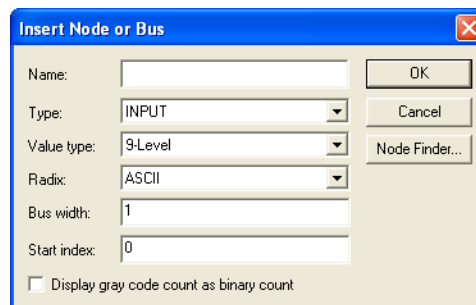
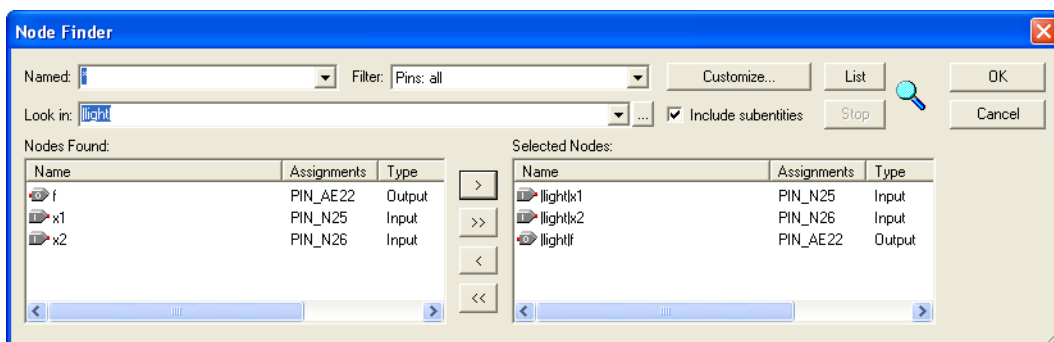
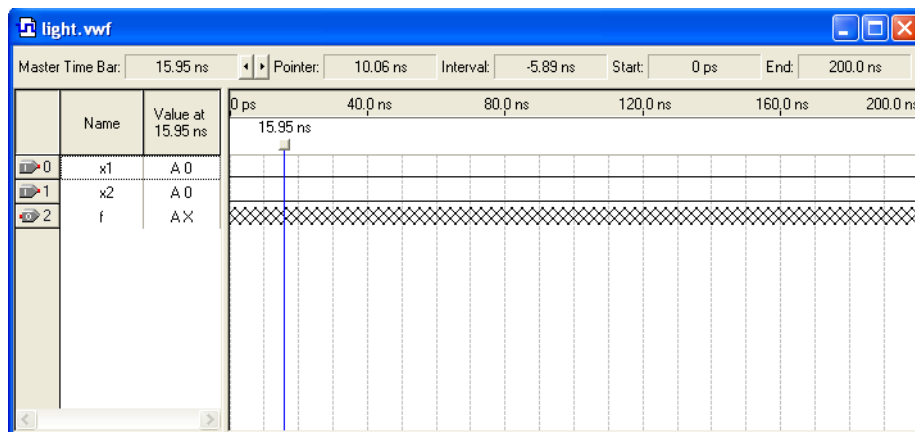

Figure 33. The Insert Node or Bus dialogue.
Figure 34. Selecting nodes to insert into the Waveform Editor.
Figure 35. The nodes needed for simulation.
- Next, we want to include the input and output nodes of the circuit to be simulated. Click **Edit > Insert > Insert Node or Bus** to open the window in Figure 33. It is possible to type the name of a signal (pin) into the Name box, but it is easier to click on the button labeled **Node Finder** to open the window in Figure 34. The Node Finder utility has a filter used to indicate what type of nodes are to be found. Since we are interested in input and output pins, set the filter to **Pins: all**. Click the **List** button to find the input and output nodes as indicated on the left side of the figure.
Click on the  $x1$  signal in the Nodes Found box in Figure 34, and then click the  $>$  sign to add it to the Selected Nodes box on the right side of the figure. Do the same for  $x2$  and  $f$ . Click OK to close the Node Finder window, and then click OK in the window of Figure 33. This leaves a fully displayed Waveform Editor window, as shown in Figure 35. If you did not select the nodes in the same order as displayed in Figure 35, it is possible to rearrange them. To move a waveform up or down in the Waveform Editor window, click on the node name (in the Name column) and release the mouse button. The waveform is now highlighted to show the selection. Click again on the waveform and drag it up or down in the Waveform Editor.